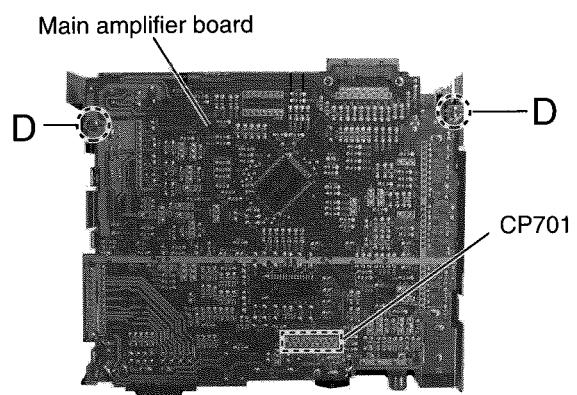

Fig.5
(See Fig. 5)
■ Removing the load arm (See Fig.5)